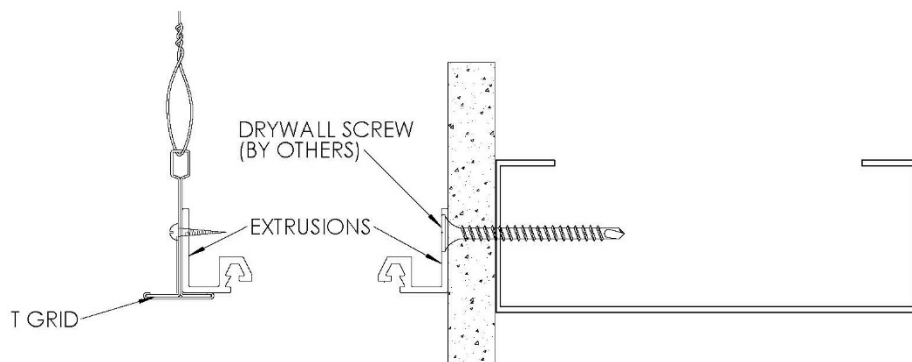

FIGURE 1
1. Position aluminum extrusion on the inside lip of the “T” grid as shown and attach with #6 self-drilling screws 18” on center. On the wall side, position the corner extrusion so the extrusions channels are level with each other. Fasten with drywall screws (by others) through the gypsum wallboard and into the steel stud (stagger seams, as necessary). **See Figure 1**